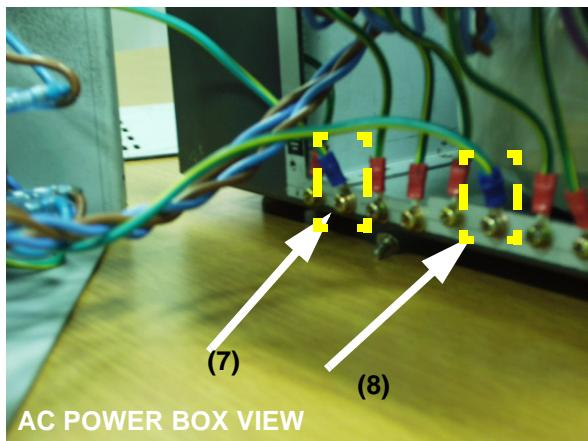

Figure 8-184 Unscrew two ground screws
- 4.) Unscrew two (2) ground screws (7-8). Refer to Figure 8-184.